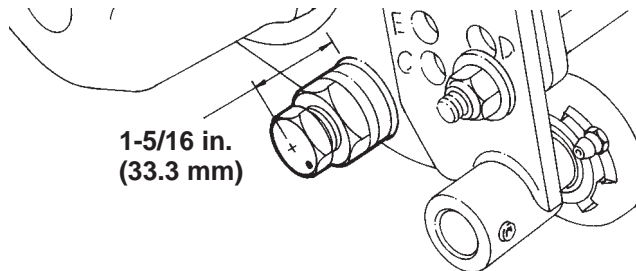

Figure 14
2. On the left side of the bedbar, position the plastic washer between the bedbar and side plate. Thread the pivot bolt through the jam nut and side plate and into the bedbar until the distance from the top of the pivot bolt and side plate is 1-5/16 in. (33.3 mm) with the identification dot positioned to the rear. Do not tighten the jam nut at this time (Fig. 14).